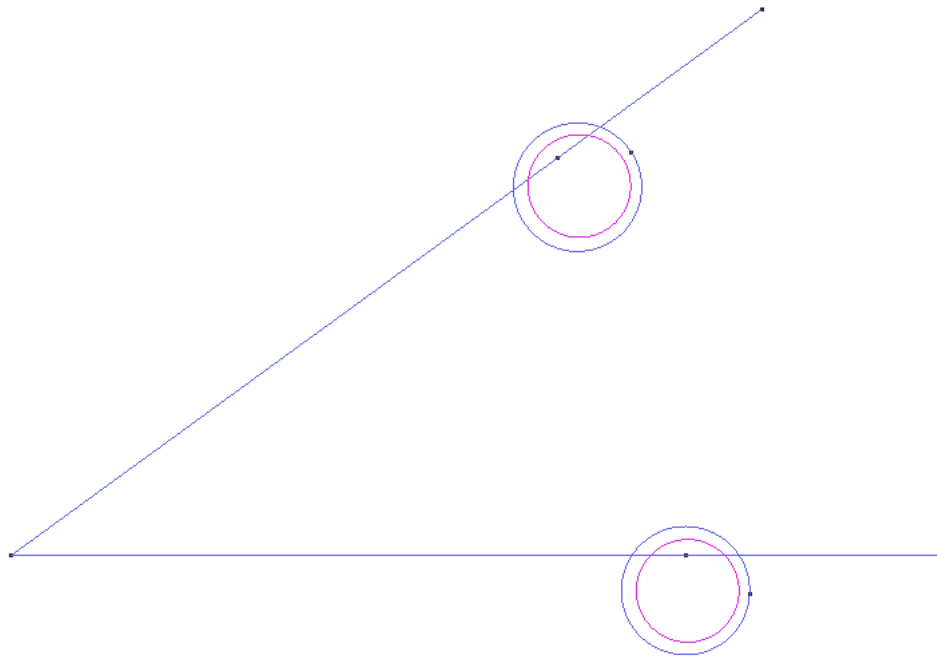

Figure 8. Result of copying and rotating the line
- 4 . Press **ESC** to indicate that the process of selecting lines is finished, thus executing the task (see Figure 8).